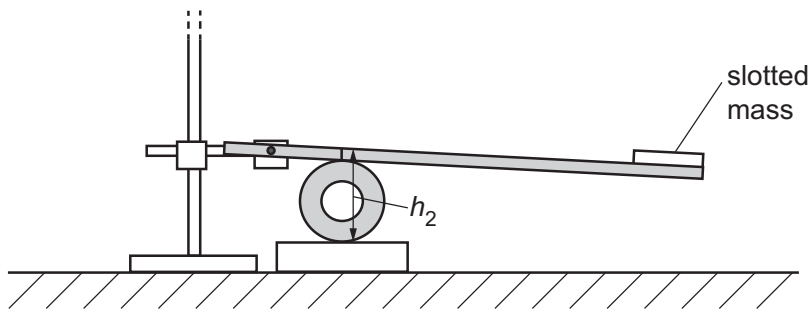

Fig. 2.4
- Place the slotted mass at the end of the rod, as shown in Fig. 2.4.
- The vertical distance, next to the ring, of the top of the rod above the block is now h_2 , as shown in Fig. 2.4.